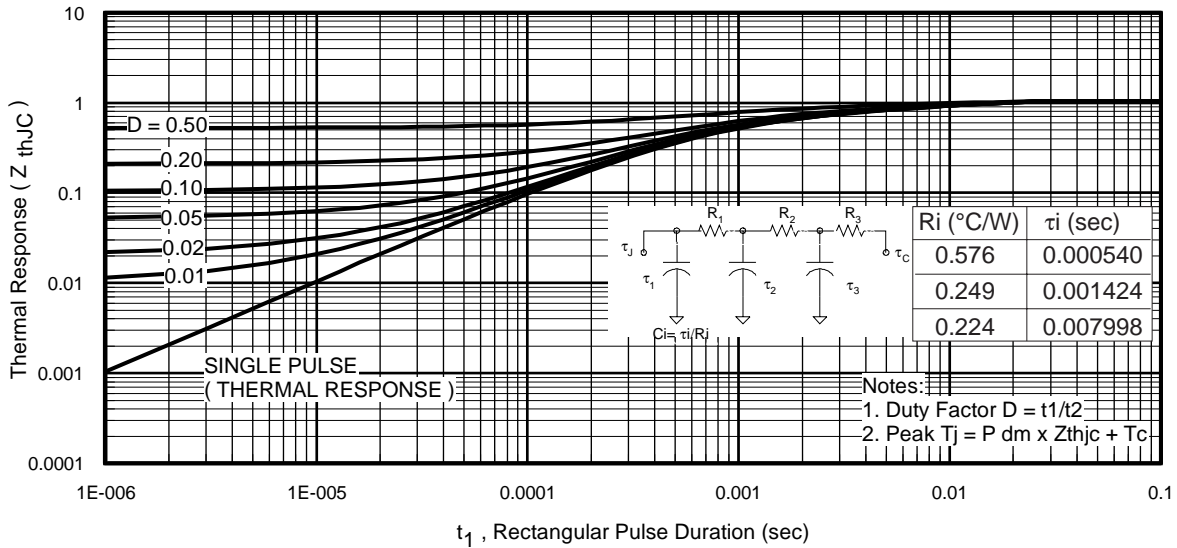

Fig 11. Maximum Effective Transient Thermal Impedance, Junction-to-Case
$Z_{thJC}(D, t_{av})$ = Transient thermal resistance, see figure 11)
- ① Repetitive rating; pulse width limited by max. junction temperature. (See fig. 11).
- ② Limited by T_{Jmax} , starting $T_J = 25^\circ\text{C}$, $L = 0.28\text{mH}$, $R_G = 25\Omega$, $I_{AS} = 33\text{A}$, $V_{GS} = 10\text{V}$. Part not recommended for use above this value.
- ③ Pulse width $\leq 1.0\text{ms}$; duty cycle $\leq 2\%$.
- ④ C_{OSS} eff. is a fixed capacitance that gives the same charging time as C_{OSS} while V_{DS} is rising from 0 to 80% V_{DSS} .